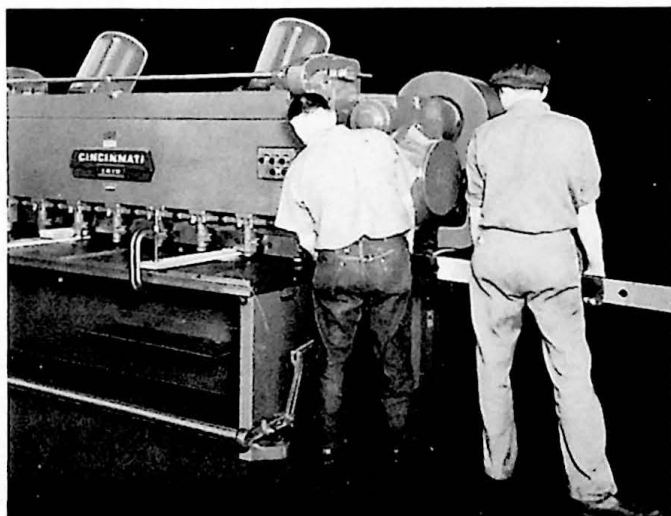

Fig. 16. Changing Knives
2. Place wooden blocks on the table to project under the upper knife and support it, Fig. 16.